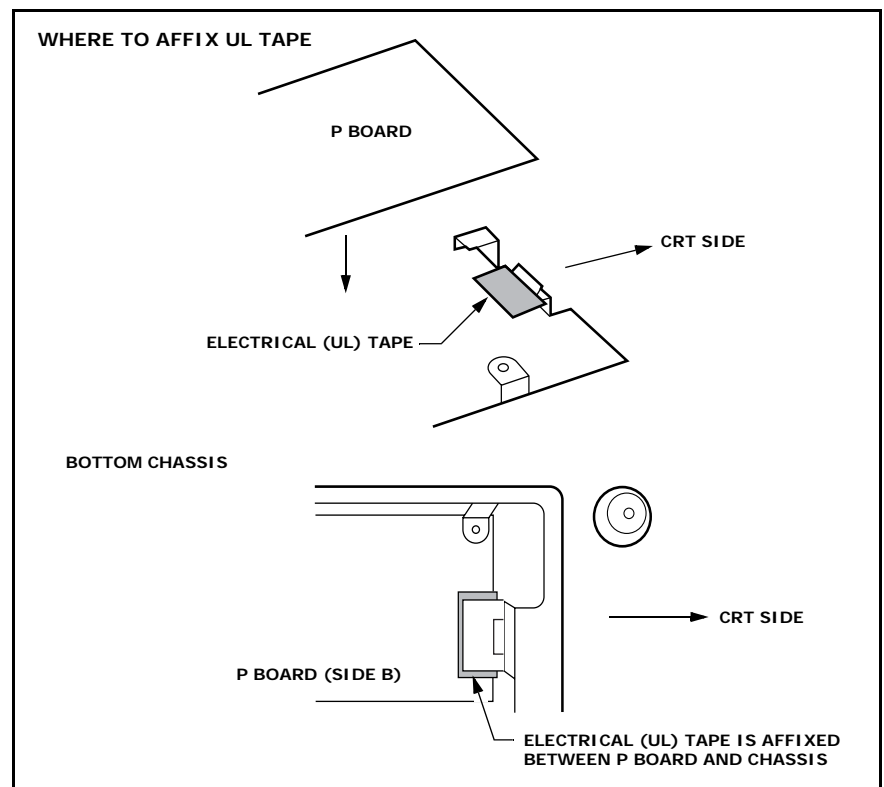

Figure 1
2. Affix electrical (UL) tape to the bottom chassis as shown in Figure 1.